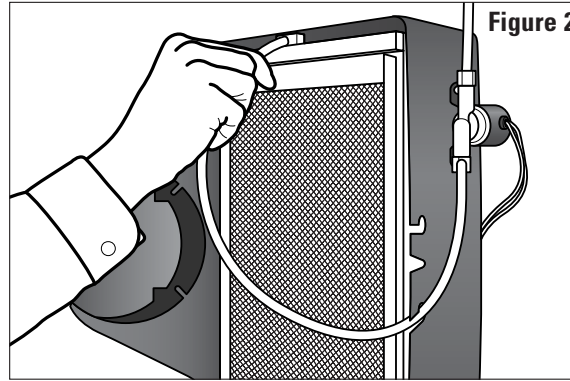

Figure 2
5. Re-install the Water Panel Evaporator assembly back into the base, making sure the bottom of the water panel assembly is properly seated on the sensor assembly. Make sure both float stems extend through openings in float cover and that floats move freely up and down. Push the feed tube back into the water distribution tray. (See Figure 2) If the nameplate in the cover (11) is upside down, remove it by gently squeezing the tabs of the nameplate from inside the cover and pushing out. Rotate the nameplate so it is right side up, and snap back into place. Put the front cover back on. Turn damper handle (8), to the open position "winter" for the heating season or closed position "summer" for the cooling season.